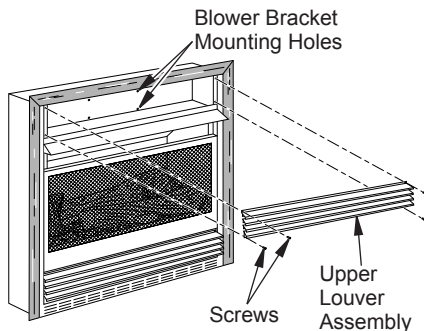

Figure 14 - Removing Upper Louver Assembly
Built-in installation of this fireplace involves installing fireplace into a framed-in enclosure. This makes the front of fireplace flush with wall. An optional brass trim kit accessory is available (see *Accessories*, page 30). Brass trim will extend past sides of fireplace approximately 1/2". This will cover the rough edges of the wall opening. If installing a built-in mantel above the fireplace, you must follow the clearances shown in Figure 14, page 12. Follow the instructions below to install the fireplace in this manner. *Note: Your fireplace is designed to be used in zero clearance installations. Wall or framing material can be placed directly against any exterior surface on the rear, sides or top of your fireplace.*
2. Remove 4 screws from louver assembly (see Figure 14). Save these screws.
9. Install switch plate on valve cover shield with 2 #10 screws provided (see Figure 17). Reinstall valve cover shield. Route power cord out of cabinet by inserting it through the bushing on the outer casing (see Figure 16). Plug fan kit into 120-Volt grounded power supply and test operation. *Note: When switch is in the AUTO position, the fan will start after the heater has run for a few moments. The fan will continue to run for several moments after the heater has been turned off. When switch is in the ON position, the fan will run until turned to OFF. Reinstall upper louver assembly and hood if previously removed, (see Figure 14, page 13). Close lower louver door.*
8. Reinstall upper louver assembly and hood if previously removed, (see Figure 14, page 13). Close lower louver door.